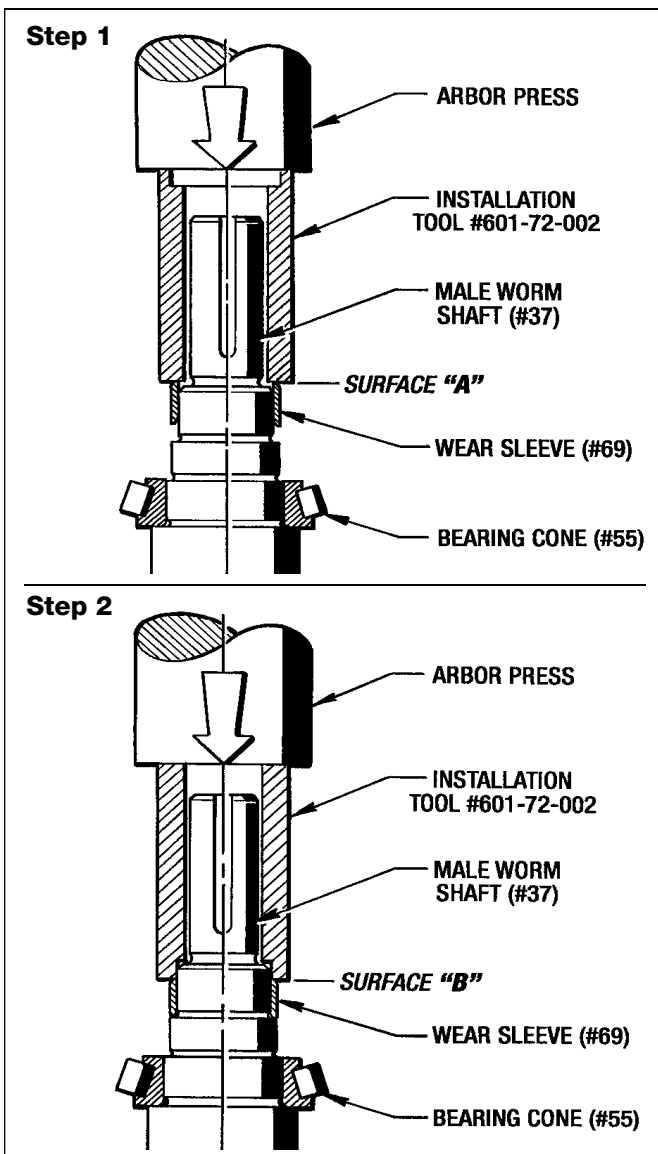

Figure 7.10 - Installing Wear Sleeve on Male Worm Shaft
7. Place the Worm Shaft in an arbor press as shown in **Figure 7.10. Step 1** - Press the Wear Sleeve (#69) on to the Worm Shaft with **Surface "A"** of the Installation Tool. **Step 2** - Turn the Installation Tool over and with **Surface "B"** finish pressing the Wear Sleeve on the Worm Shaft until it bottoms out on the shaft shoulder.